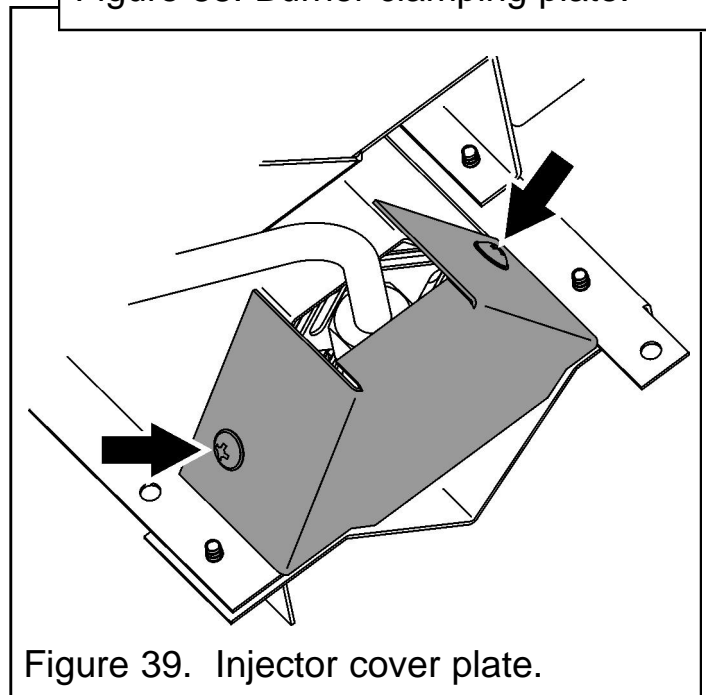

Figure 39. Injector cover plate.
3. Unscrew and remove the injector cover plate from underneath the burner (See figure 39).